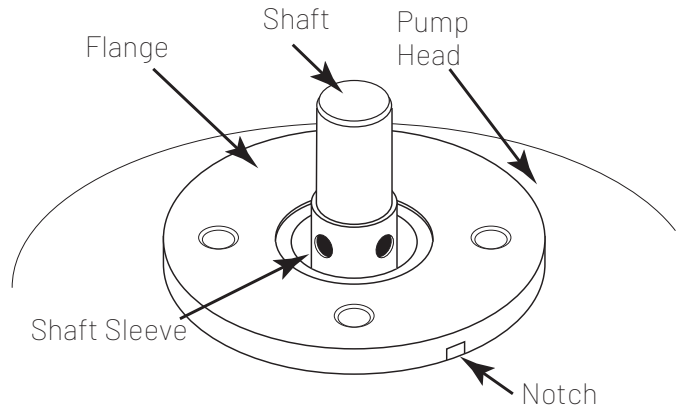

Figure 9
3. Remove the four retaining bolts (69) that hold down the seal flange and seal.
5. Using the three round holes on the top of the shaft sleeve, or notch in flange (Figure 9), remove the remaining portions of the seal.